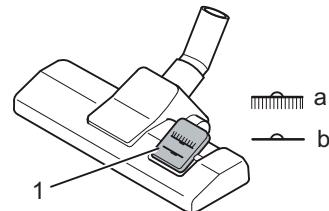

Fig. 11
4. Adjust the "carpet/hard floor" switch (Fig. 11/1) depending on the type of flooring:
- Hard floor (Fig. 11/a): Laminate flooring, tiles, PVC flooring, etc.
- Carpet (Fig. 11/b): Long/short pile carpets, etc.